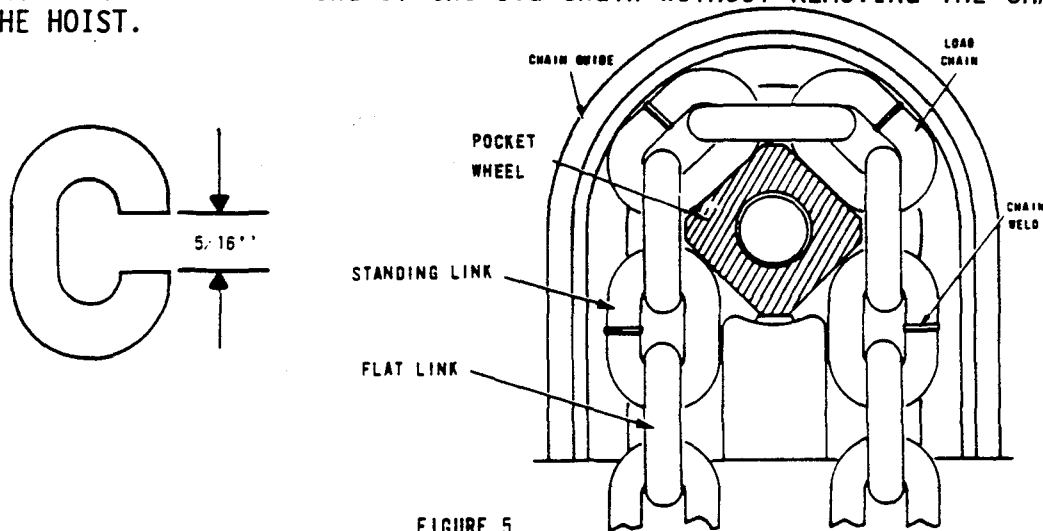
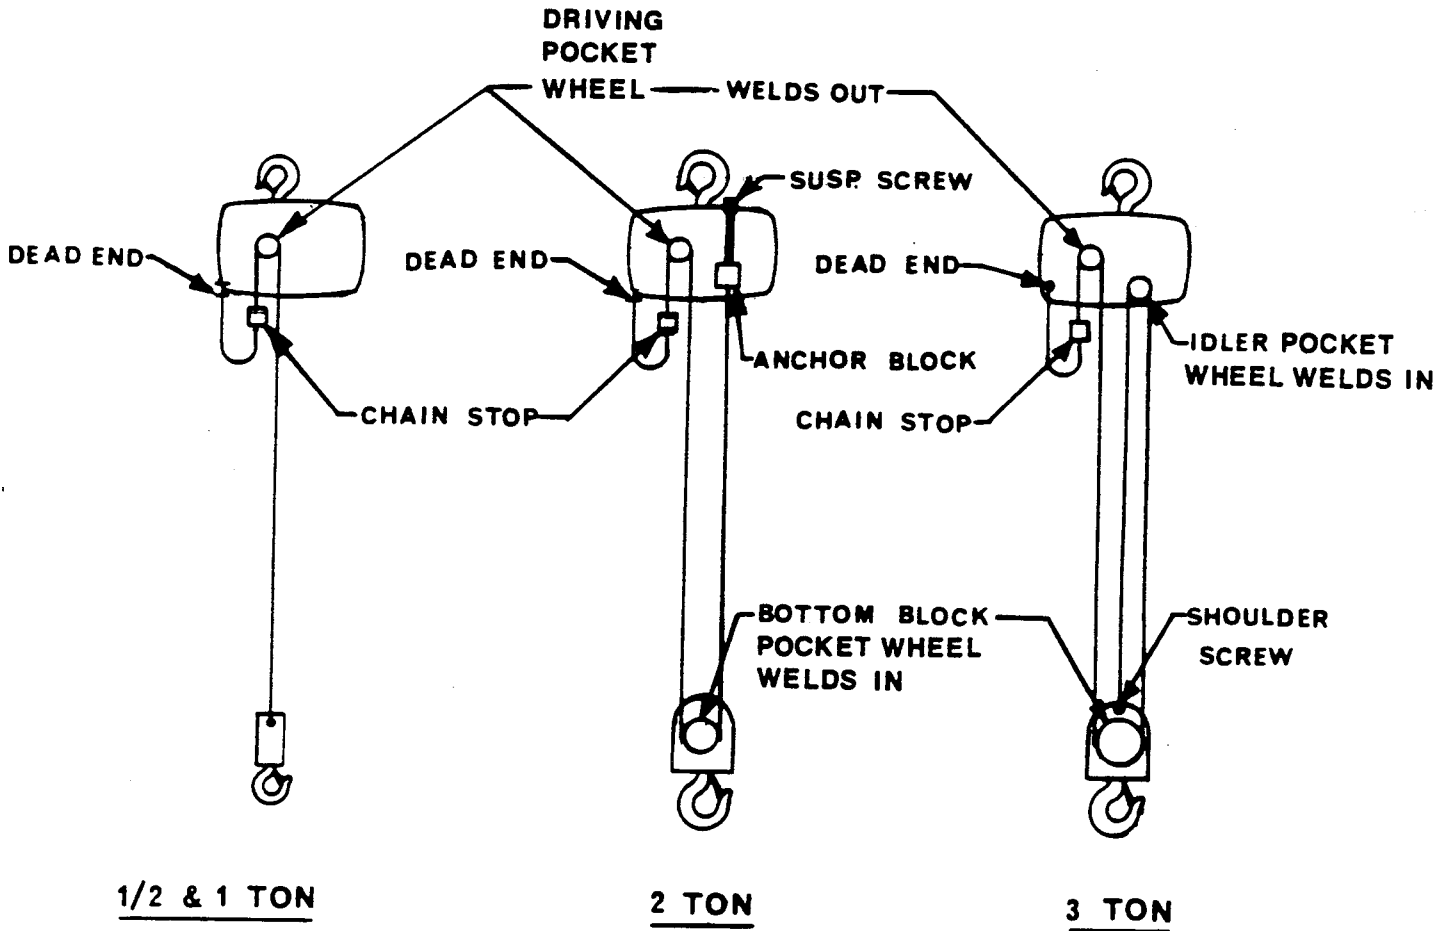

FIGURE 5.
Figure 6
- (e) Connect the new chain to the old using the notched link. Be sure the welds of the standing links (links turned perpendicular to the sheave) face away from the driving pocket wheel. On 1/2, 1 and 2-ton units the first link of the new chain must go on flat. On 3 ton units first link of new chain must go on standing. Use 2 notched links if necessary. (See figure 5 above and figure 6 on page 20.)
For 3 Ton Units: Work chain over bottom block pocket wheel with the chain welds on "Standing Links" toward the pocket wheel. Start with "Standing Link." Be sure chain is not twisted. Work chain over idler pocket wheel from side away from center line of hoist. Chain welds on "Standing Links" must be toward the pocket wheel. Start with "Standing Lin." BE SURE CHAIN IS NOT TWISTED. Pull end through the fasten to top of bottom block with shoulder screw. Be sure chain is not twisted. Replace chain stop at least 8 links from dead end of chain. Fasten dead end to bottom crosshead. Be sure chain is not twisted. Refer to figure 5, page 19 and figure 6, page 20.